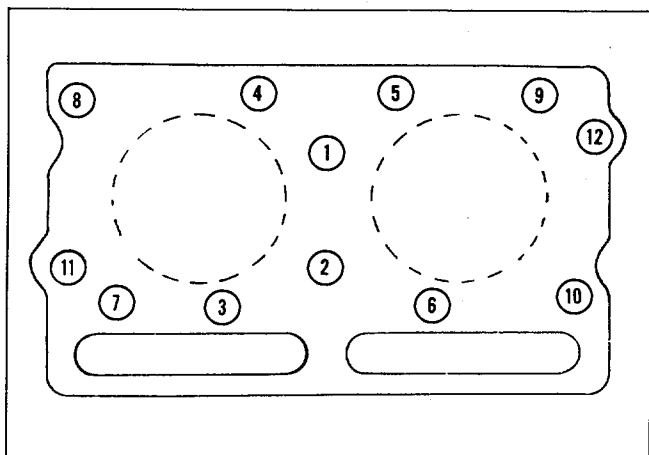

Fig. 14-26 (N11427). The Tightening Sequence For The Cylinder Head Capscrews.
5. Install the washers and capscrews. Tighten the capscrews in the sequence shown in Fig. 14-26. Tighten the capscrews to the torque values given in Table 3.